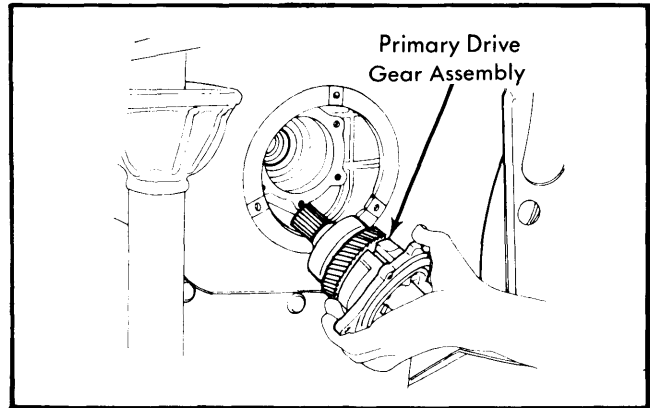

Fig. 2 Removing Primary Drive Gear Assembly
2) Turn wheels to left stop, then remove right side inspection cover and disconnect clutch release fork. Remove six bolts on bearing housing. Pull out primary drive gear assembly. (See Fig. 2). Lift out clutch cover and disc through inspection opening. Remove strap securing pressure plate to clutch cover. Keep strap in relative position since it is part of dynamic balance.